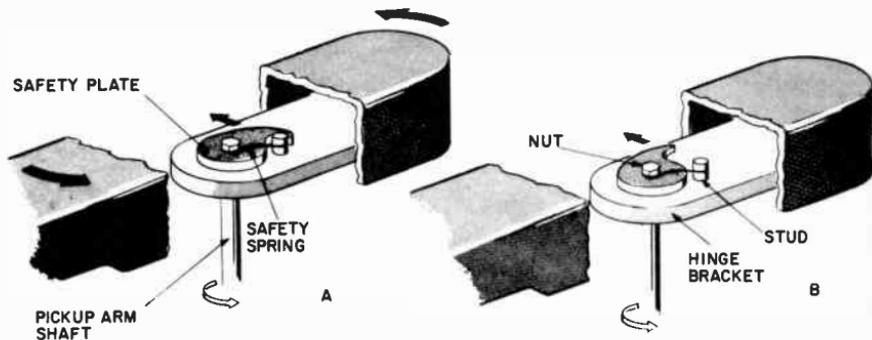
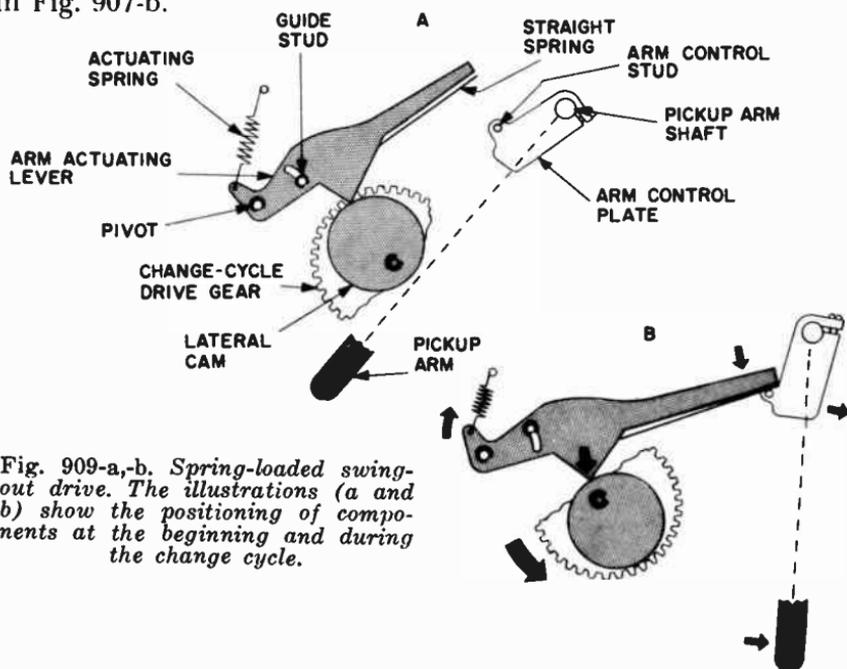

Fig. 902-a,-b. Basic hinge-bracket safety drive. The safety plate turns with the pickup arm shaft.
Fig. 909-a, b. Spring-loaded swing-out drive. The illustrations (a and b) show the positioning of components at the beginning and during the change cycle.
Fig. 902 shows the hinge-bracket safety drive. The nut attaches the safety plate to the pickup arm shaft so that the plate
turns with the shaft. Discounting the safety spring, the hinge bracket is loosely seated on the pickup arm shaft. If it were not for the spring, the arm would swing freely, uncontrolled by the shaft. However, the safety-spring tension holds the hinge-bracket stud snugly against the safety plate so that under safe conditions the hinge bracket will swing out with the safety plate. Therefore, when the pickup arm shaft is turned, the hinge bracket will swing the pickup arm out, as shown in Fig. 902-a. On the other hand, if the pickup arm is obstructed, it will hold back the hinge bracket and the tension of the safety spring will be overcome. The elasticity of the safety spring allows the safety plate and the pickup arm shaft to continue on their way, as shown in Fig. 902-b, so that the entire mechanism can go through the cycle as it normally would. If the pickup arm is retarded only momentarily, it will be snapped sharply back into position by the safety spring when released. This rapid action can also harm the pickup arm so, if it is mistakenly retarded, it should be eased into position, not just released.
Lateral cams can be used with the swing-out mechanism in two ways: (1) the cam surface can be used to permit a spring-loaded actuating lever to *follow* its eccentric surface inward and (2) the force of the turning cam surface can be used to *push* an actuating lever. The advantage of the first method is that the assembly is also an automatic safety drive. Fig. 909-a shows the components at the start of the change cycle. The actuating spring tends to turn the arm actuating lever, but the change-cycle cam surface holds the lever back. During the cycle, the lateral cam is turned so that
its surface moves inward. This permits the actuating spring to turn the lever, causing the lever to ride in, as shown in Fig. 909-b. The end of the lever pushes the arm control stud, forcing the arm control plate to turn. Since the plate is bolted to the pickup arm shaft, the shaft turns and swings out the pickup arm.
as that shown in Fig. 909. If the spring breaks or falls off, the cam actuating lever will not move and so no swingout motion develops. The first part to check then, and replace if necessary, is this spring. The next most probable source of this trouble is the safety drive. The safety springs hold the driving members, such as the studs, arms or plates (Figs. 902, 906, 908) in driving position. If these springs break or fall off, the driving member will have no effect; it will merely slip away on contact.